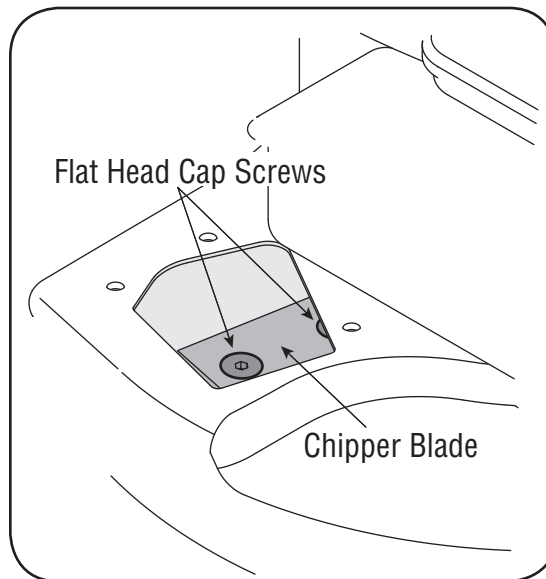

Figure 23
9. Using a 3/16" allen wrench, remove the flat head cap screws that hold the chipper blade to the impeller. These screws are accessible through the opening created when the chipper chute was removed earlier. See Figure 23.